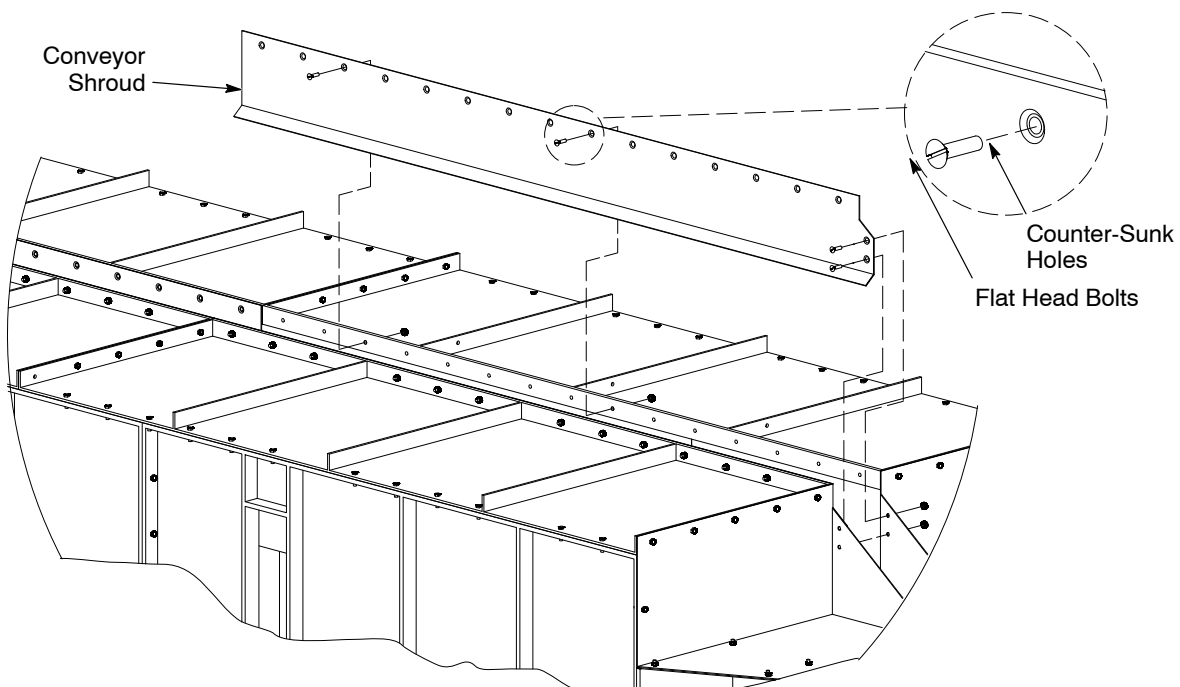

Figure 10 Conveyor Shroud Installation
2. See Figure 10. Place the conveyor shrouds flush against the roof panel flange and secure them with 5/16–18 flat head bolts and hex nuts. Install the bolts from the conveyor slot side, so that the heads go into the countersunk holes in the shrouds.